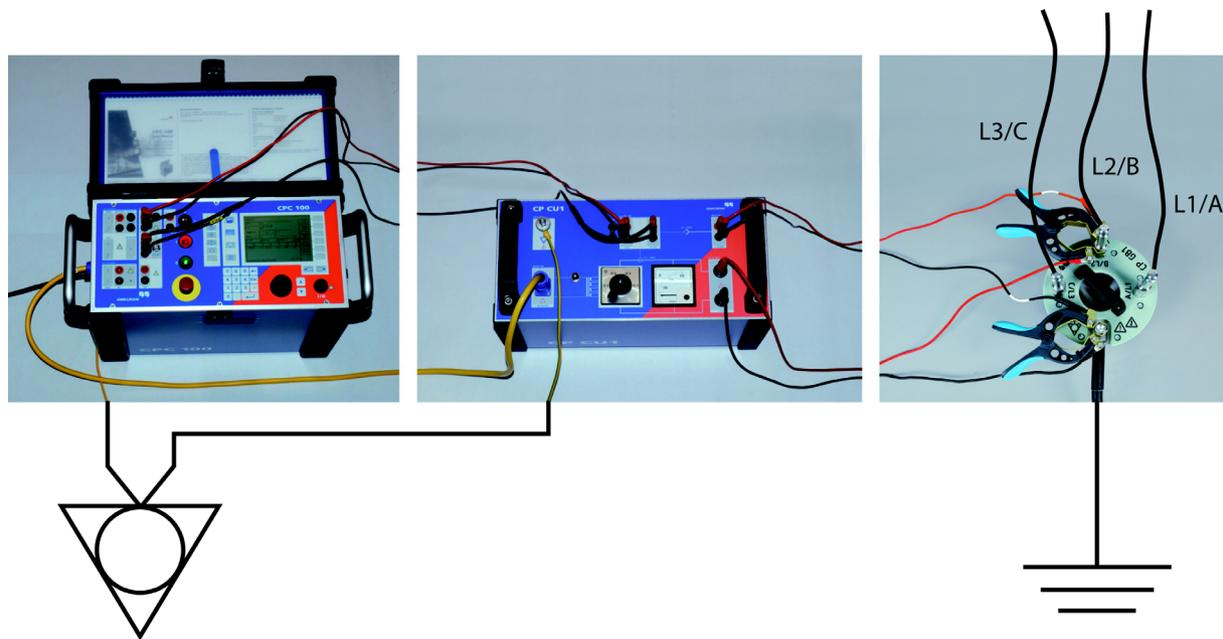
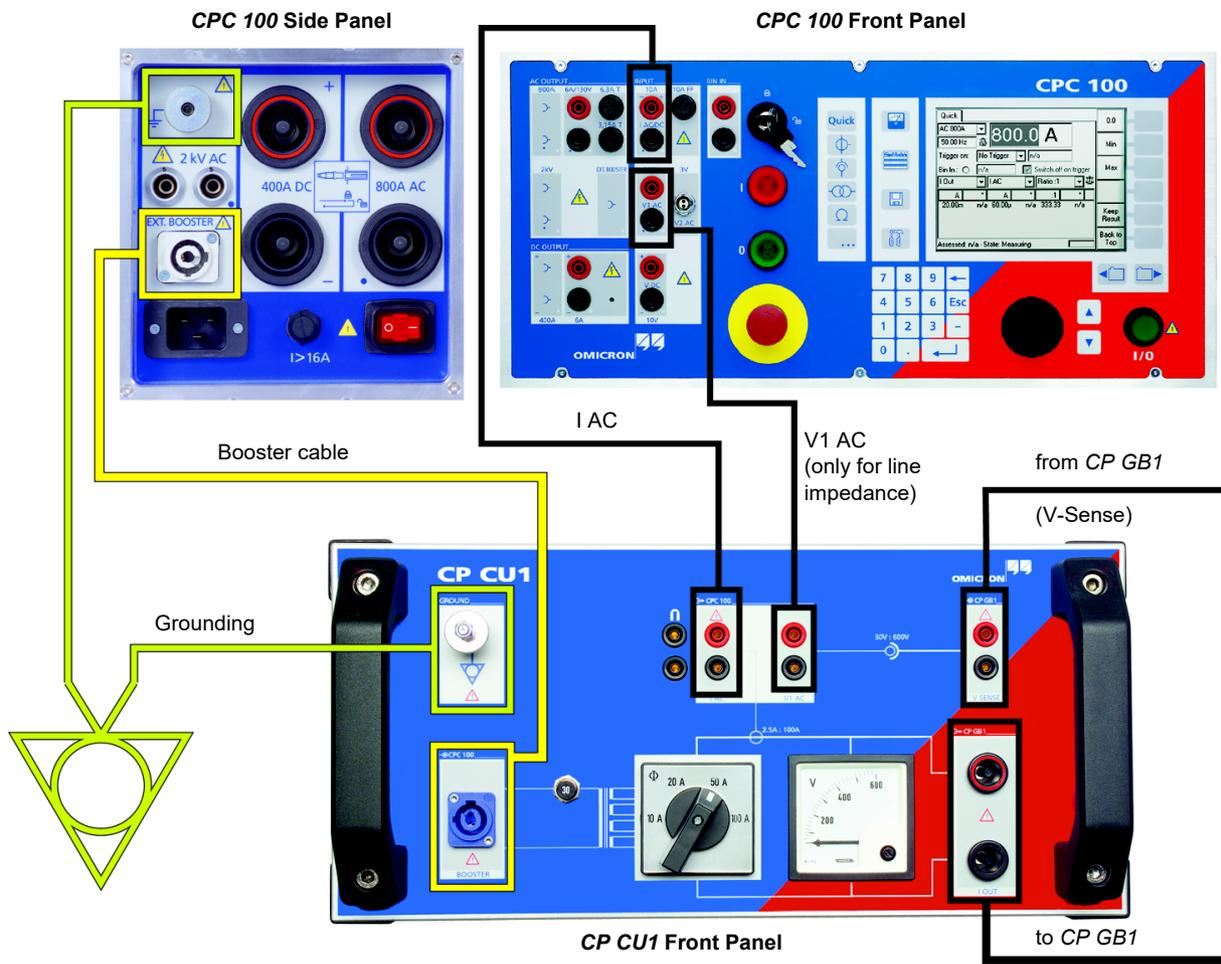

Figure 3-3: *CP CU1* measurement setup with *CPC 100* and *CP GB1*
Figure 3-4: Connecting the *CPC 100* to the *CP CU1*
Figure 3-3 below shows the measurement setup of the *CP CU1* and *CPC 100*. A more detailed overview over the necessary connections between the two units is given in Figure 3-4: on page 29.
4. Connect the *CPC 100* to the *CP CU1* according to Figure 3-4 below.